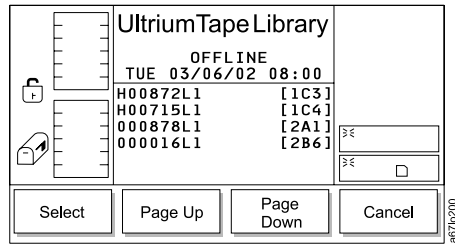

Figure 106. Media Dialog
3. Press the button below the **Media** softkey. The Media Dialog displays a list of tape cartridges in the library by their VOLSERs and their locations (see Figure 106 on page 113). The location is a 3-character physical address (x y z) where x equals the number of the column, y equals the number of the magazine, and z equals the number of the storage slot.